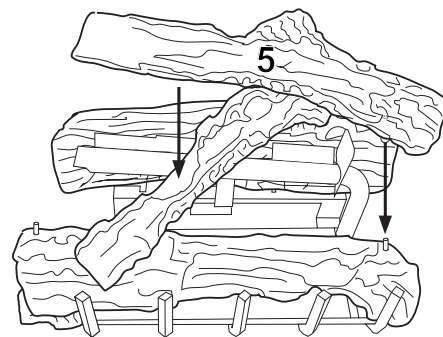

Figure 48 - Installing Log No. 5
5. Place log #5 (top log) onto right pin of front log (#2) and the smooth surface of rear log (#3) as shown in Figure 48). Make sure it is seated properly.